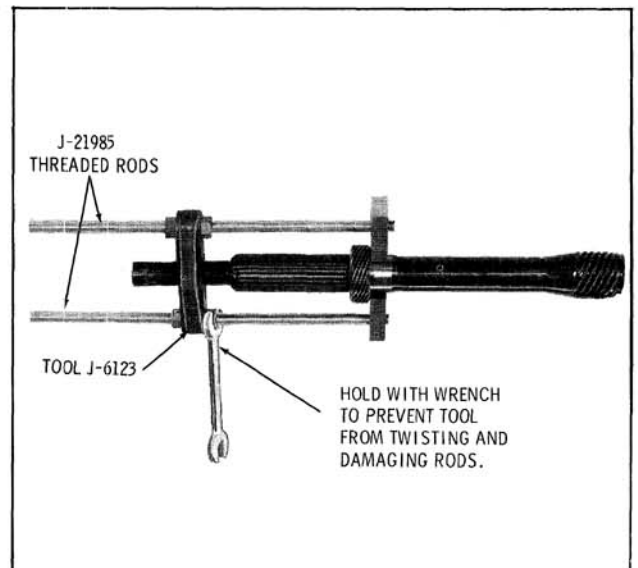

Fig. 6-369 Removing Speedometer Drive Gear
1. Place transmission in "P" range, then remove speedometer driving gear with J-6123. (Fig. 6-369)